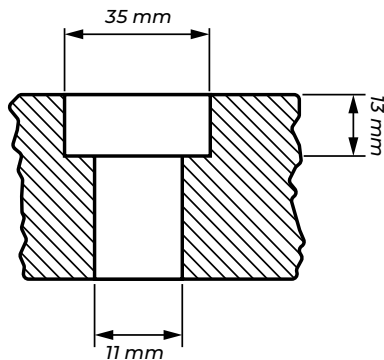

Figure 3. Counterbore a hole.
- 4** Drill a 11 mm hole through all layers of the car floor and counterbore the hole to 35 mm with a depth of 13 mm (Figure 3).